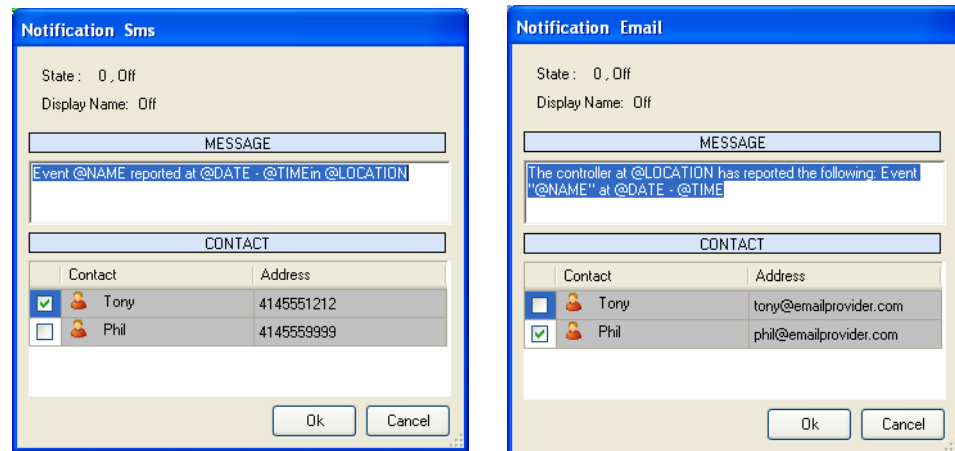

Figure 138: Editing the Treatment
1. In the Events window, right-click the contact and select Edit Notification. The Notification window appears (Figure 138).